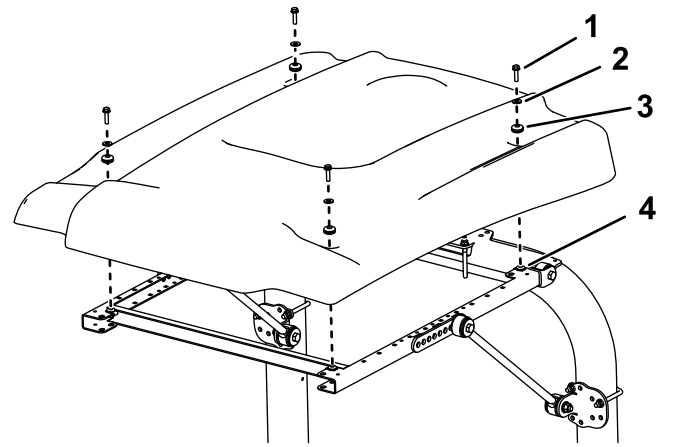

Figure 42
9. While aligning the mounting holes, position the sunshade onto the frame as shown in Figure 42.
10. Loosely mount each corner of the sunshade to the frame with a flange-head bolt (5/16 x 1-1/4 inches), a small washer, and a grommet (Figure 42).